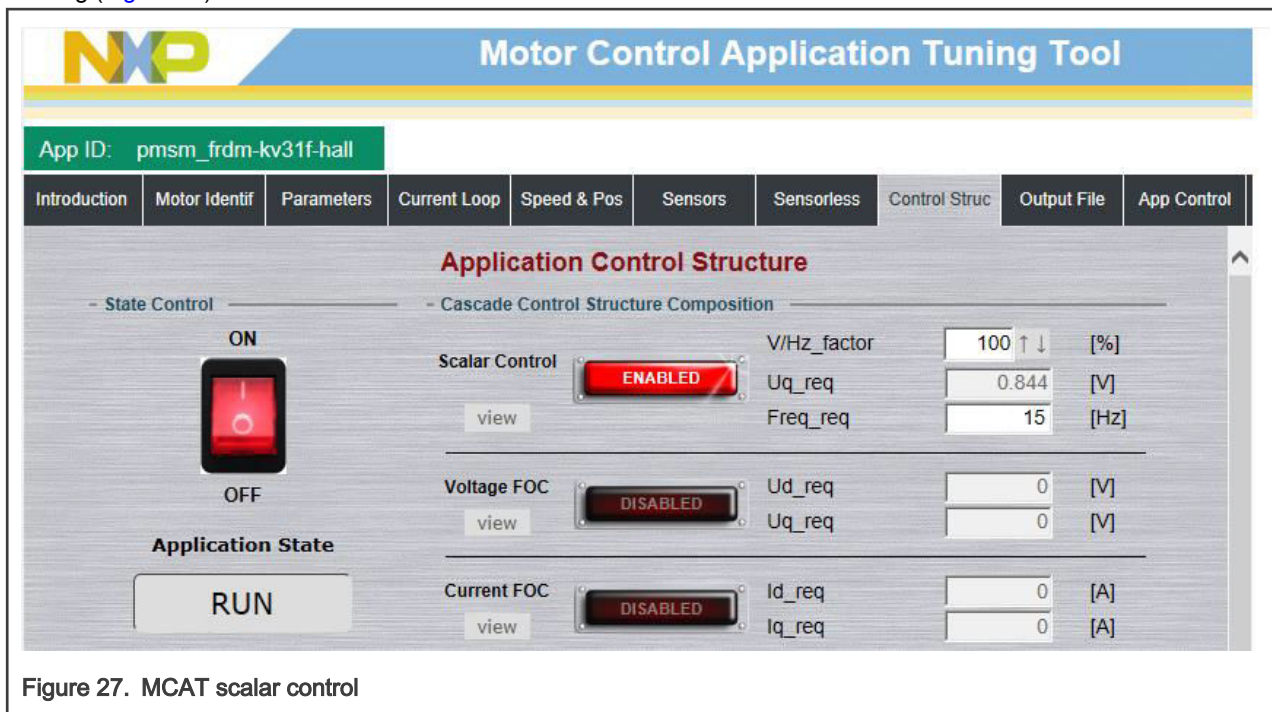

Figure 27. MCAT scalar control
- Set the required frequency value in the “Freq_req” field; for example, 15 Hz in the “Scalar Control” section. The motor starts running (Figure 27).